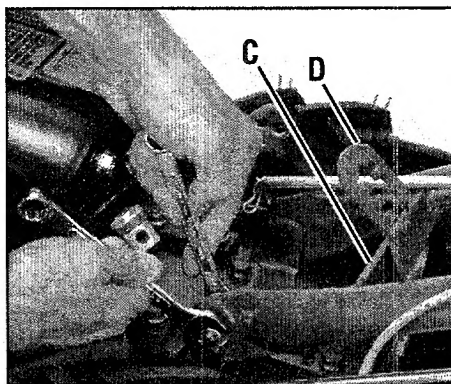

Figure 2-3: Attach handlebars.
2. Position the handlebar cross-brace (C, Figure 2-3) in front of the curved height adjustment bracket (D) and place the handlebar ends to the outside of the two mounting tabs on top of the transmission.
3. Attach the handlebars to the mounting tabs with two 3/8-16 x 1" screws (heads of screws go to inside of tabs), 3/8" flat washers and 3/8"-16 Nylock lock nuts (see Figure 2-3). Do not fully tighten the screws at this time.
5. Thread the height adjustment handle (F) into the threaded hole in the handlebar cross-brace, making sure that the raised keys on the washer fit into the selected slot on the curved bracket. Tighten the handle securely. Next, securely tighten the two screws that attach the handlebars ends to the mounting tabs (Figure 2-3).